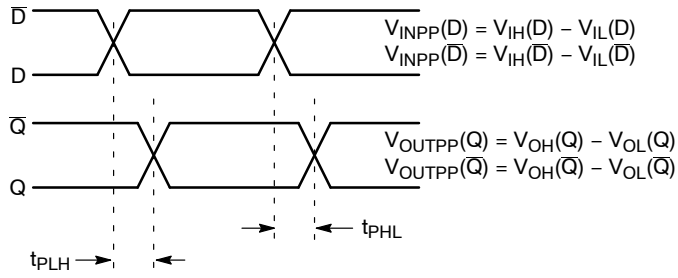

Figure 13. AC Reference Measurement
24. See Figure 13  $t_{skew} = |t_{PLH} - t_{PHL}|$  for a nominal 50% differential clock input waveform. Skew is measured between outputs under identical transitions and conditions @ 1 GHz.